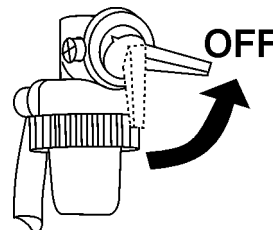

Figure 21. Engine Fuel Valve Lever (OFF Position)
- Place the engine **fuel valve lever** (Figure 21) to the **"OFF"** position."
- Drain the engine oil when the oil is **warm** as shown in Figure 21.